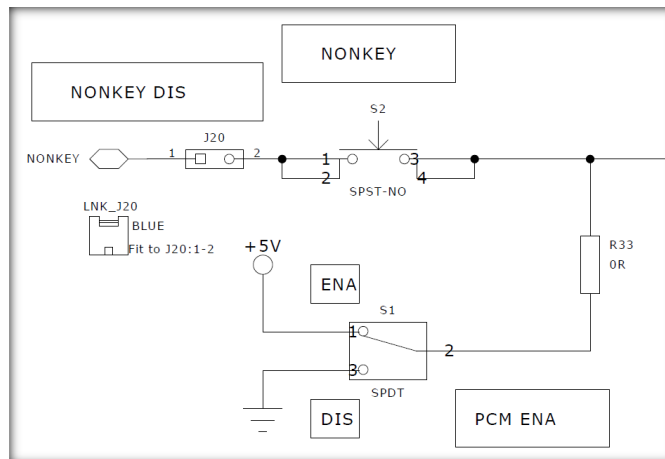

Figure 28: Power Commander Switches
- a. S1 (PCM\_ENA) is in ENA position, see Figure 28.